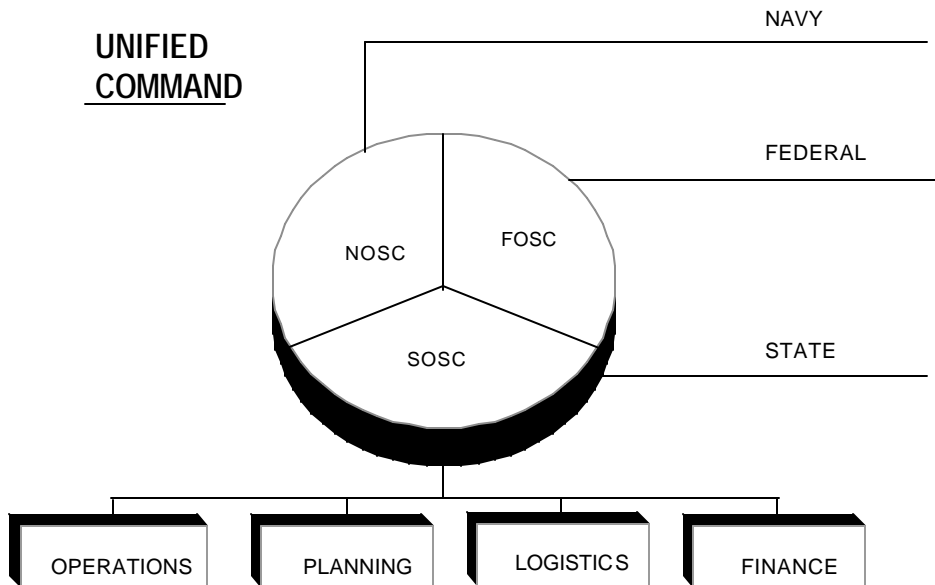
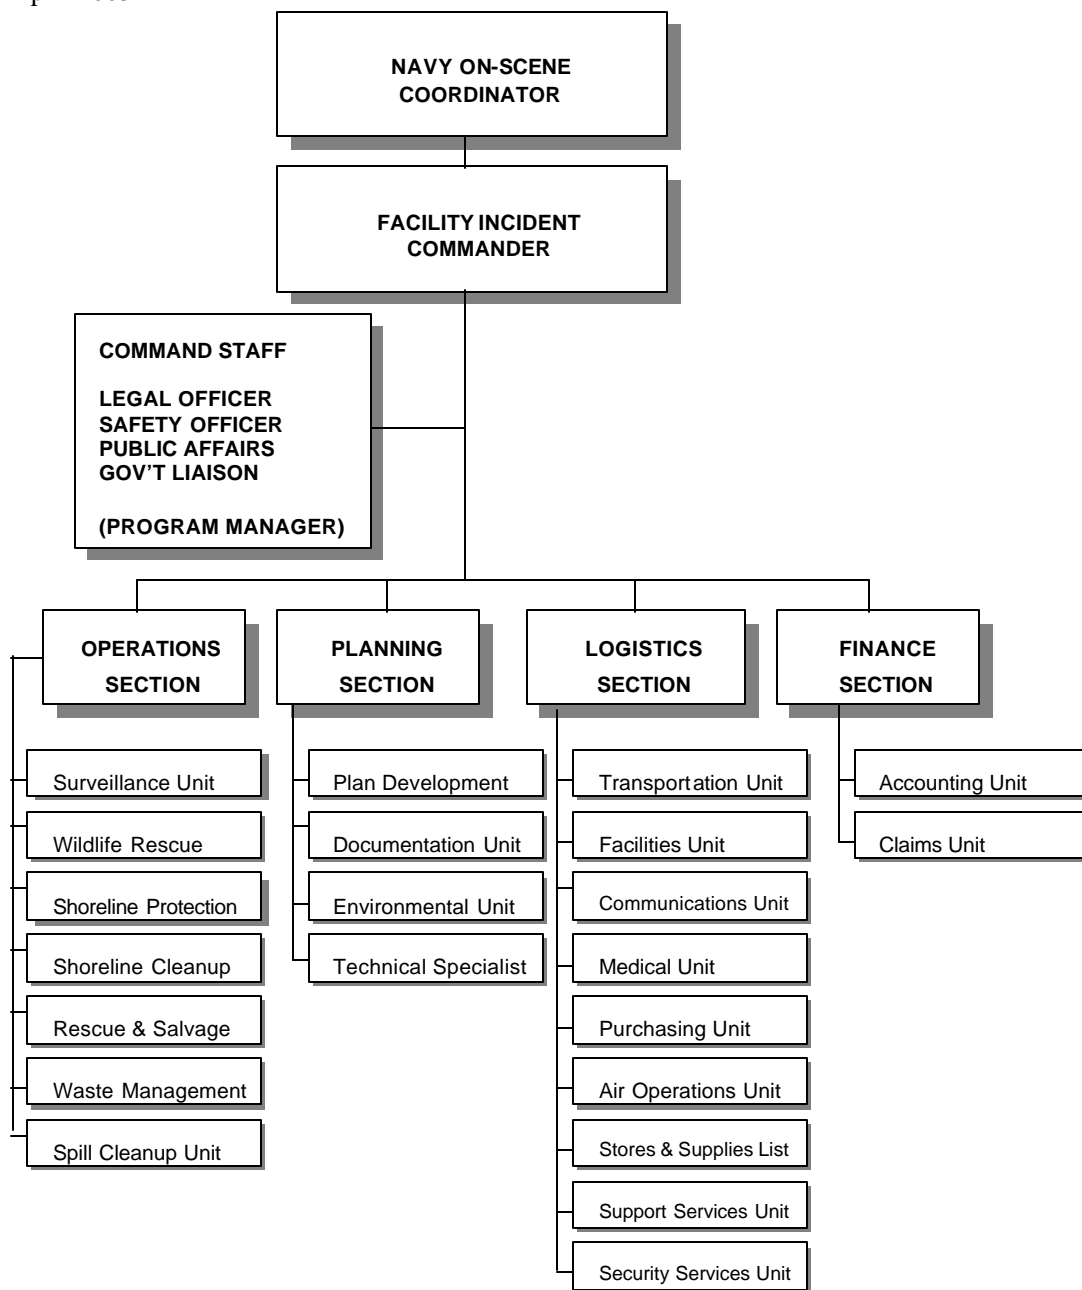

Figure 4-2 Unified Command Organization
Figure 4-3 Typical NOSC OHS Spill Response Organization
(2) SUPSALV can provide all necessary oil spill response equipment (i.e., skimmers, POL storage bladders, transfer pumps, tow boats, containment boom, etc.) to meet the response resource requirements identified in Appendix C for Tiers 2 and 3, as well as portable field support equipment, shops, offices, etc. All equipment can be deployed by air from the principal Emergency Ship Salvage Materials (ESSM) warehouses in Port Hueneme, CA, and Williamsburg, VA, and additional equipment is located at satellite storage facilities in Anchorage, AK, and Pearl Harbor, HI.
a. The MSC Headquarters E-CAT will provide advice and assistance to the NOSC as needed. This team may provide direct input to the NOSC at the Command Staff level of the Integrated Command System, or may be integrated into the NOSC organization as shown in Figure 4-3 or as required. At a minimum, MSC shall provide accounting data and a technical advisor familiar with the ship and cargo to assist the NOSC.
- (1) Legal Counsel (N2)
- (2) Operation and Plans Director (N3/5)
- (3) Director of Environmental Programs (N731/N00EP)
- (4) Engineering Director (N7)
- (5) Comptroller (N8)
- (6) Public Affairs Director
- (7) Program Managers
4. **Spill Response Management - Navy On Scene Coordinator.** As required by the NCP and Area Contingency Plans, the OHS spill response management structure is based on an Incident Command System (ICS) consistent with the National Interagency Incident Management System (NIIMS) model. Figure 4-2 shows the Unified Command Organization described in the Area Contingency Plans. The NOSC's command structure (Figure 4-3) is compatible with this organization.
(3) A predesignated State On-Scene Coordinator (**SOSC**).
g. A typical NOSC spill response management organization is shown in Figure 4-3. The names and 24-hour contact numbers for the members of the Command Staff and the chiefs of the four functional sections are maintained on the NOSC's Command Duty Officer OHS recall bill.